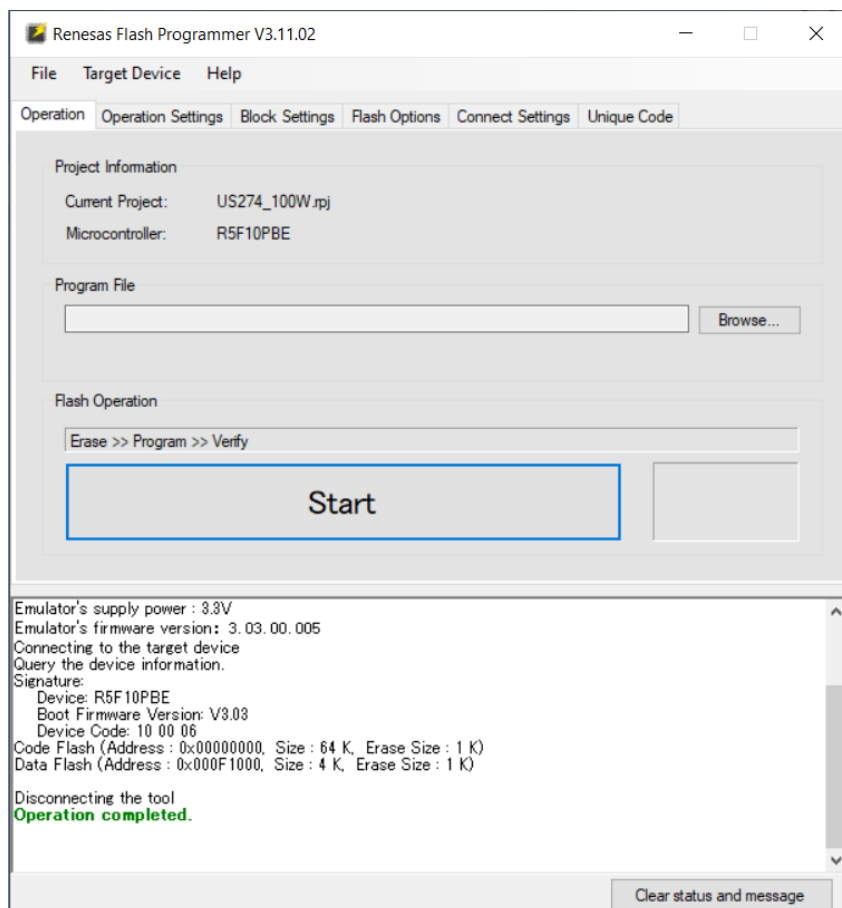

Figure 7. Renesas Flash Programmer Window – Operation Tab
9. Once the project has been successfully created, the following window displays (see Figure 7).